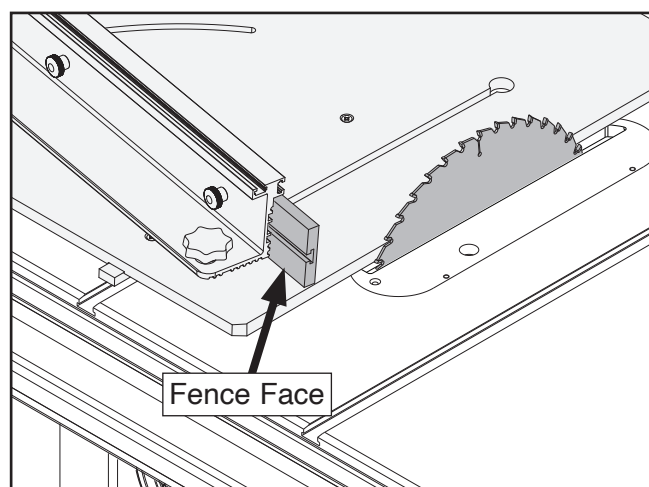

Figure 19. Fence face extended out of fence to provide workpiece support (blade guard removed for clarity).
2. Adjust fence face in fence so fence face extends as close to cut line as possible without contacting blade (see **Figure 19**), then tighten fence face knobs to secure setting.